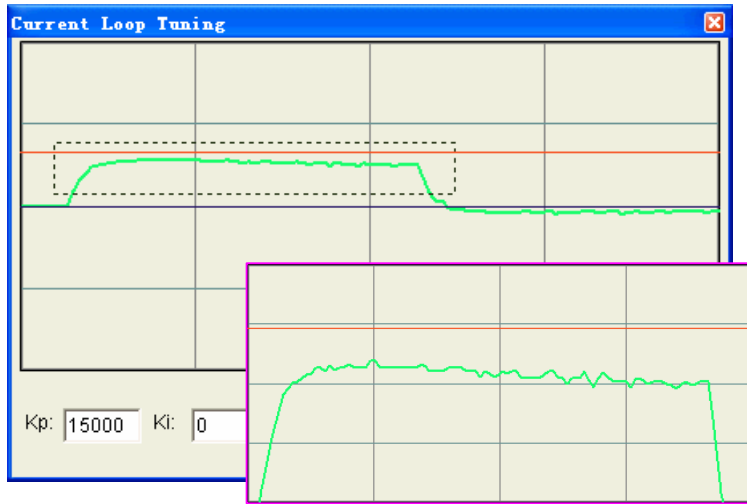

Figure3-5: Drag a rectangle to zoom in the steady error
**Step 5:** Now  **$K_p$**  is relative good enough. But there is still gap between the green curve and the red curve when we use the mouse to zoom in it as shown in figure 3-5. There is also big vibration, which will cause motor noise, on the green curve. So we need to introduce  **$K_i$** , the integral gain to reduce the “gap” or steady error at the constant part. It follows the same procedure as  **$K_p$** . Too high  **$K_i$**  will causes big vibration, system lag and makes the performance worse. See figure 3-6 for this procedure. Increase  **$K_i$**  until the gap can be accepted and not causes much vibration.